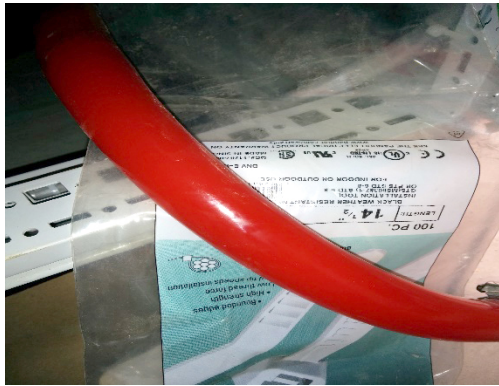
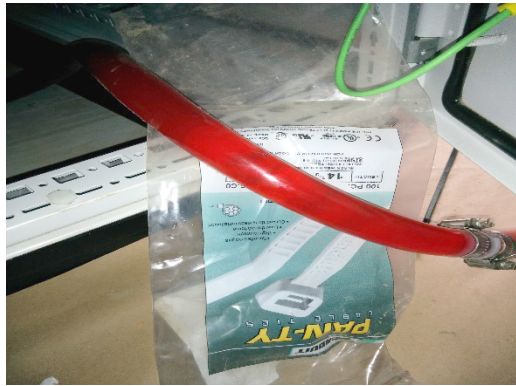

Figure 18a: Opaque fluid
Figure 18b: Translucent fluid
- 32. Repeat bleeding of all Converteam drives until the fluid color turns from opaque (see Figure 18a) to translucent (see Figure 18b).